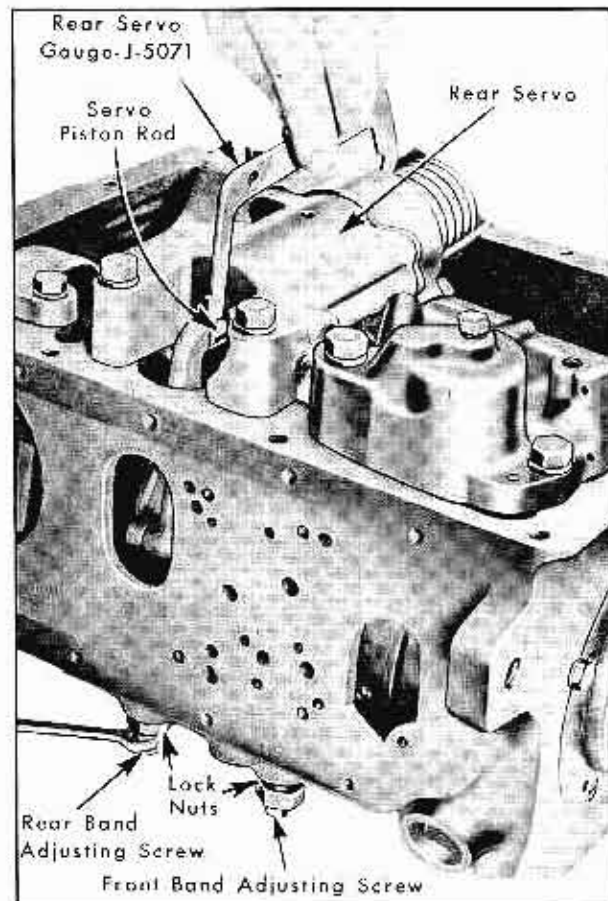

Fig. 14-10 Adjusting Rear Band
1. With rear band centered on drum, tighten band adjusting screw until actuating lever contacts face of gage J-5071. Fig. 14-10.